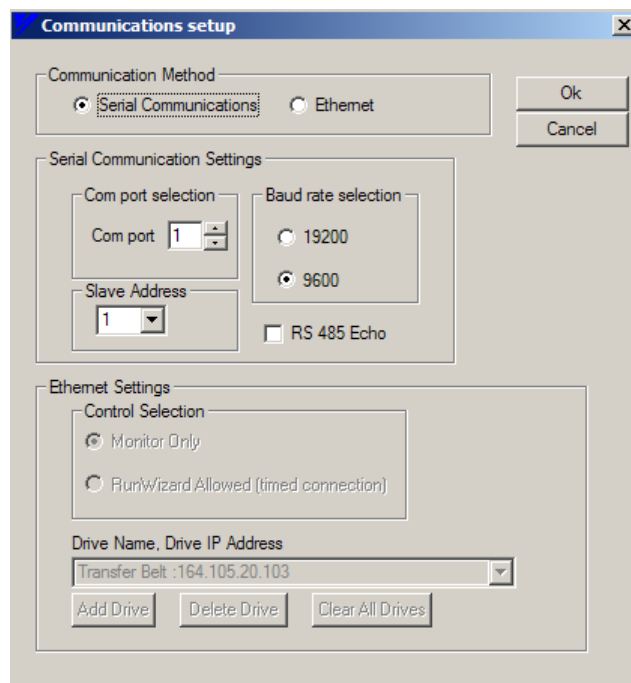
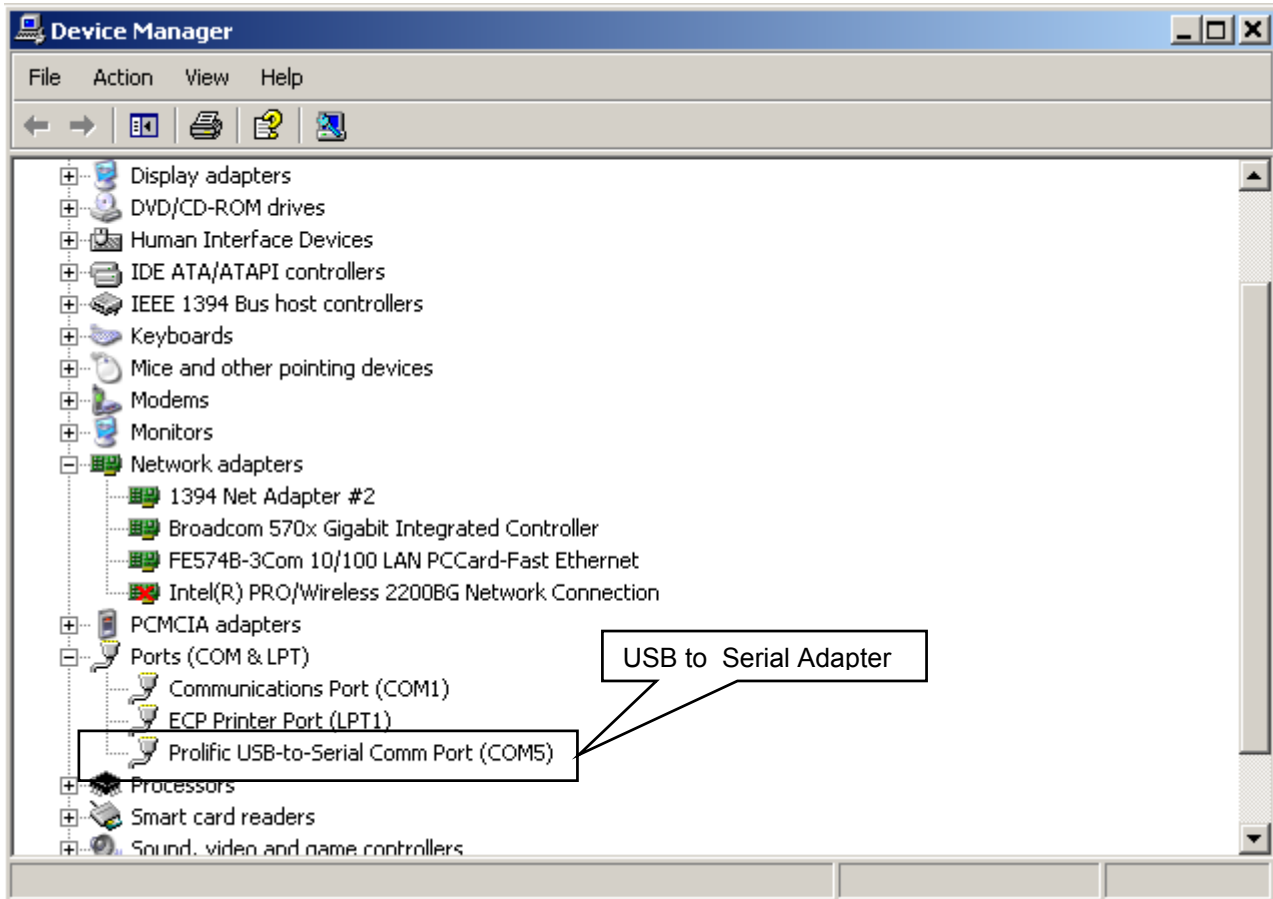

Figure 4.27: Communication Settings
Figure 4.28: Windows Device Manager showing USB to Serial Adapter
A set up window is used to configure the communication method and settings to properly connect the PC running DriveWizard™ to the drive (Figure 4.27). If the configuration is not set correctly for your situation, DriveWizard™ will not be able to connect to the drive.
When the adapter is successfully installed, it will appear in the Windows Device Manager as another serial port. Refer to Figure 4.27 for how the Dynex adapter appears. The adapter appears under the PORTS (COM & LPT). In Figure 4.28 you can see that it is assigned to COM 5. Therefore, to use this device in DriveWizard™ you would select COM 5 on the Communications setting window (Figure 4.27).
1. Check the communications window of DriveWizard™ for the proper settings (Figure 4.27).
2. Check that the adapter is installed correctly by checking Windows Device Manager (Figure 4.28).
1. Be sure the settings in Figure 4.27 above are correct.